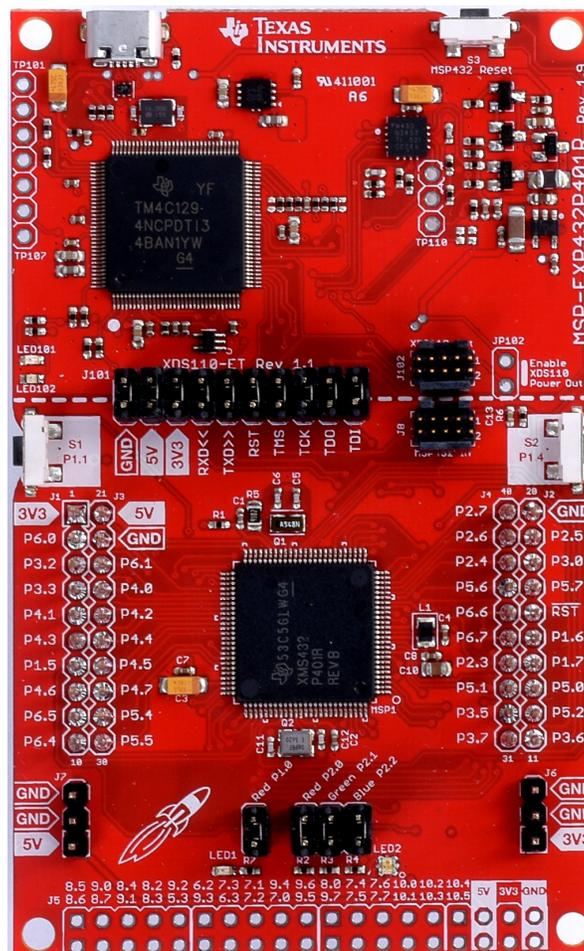

Figure 7. MSP432 LaunchPad Jumper Configuration
1. Verify jumper configuration on the MSP-EXP432P401R LaunchPad and the LM36011EVM as in Figure 7 and Figure 4, respectively.
Configuration of MSP432 LaunchPad jumpers is as shown in Figure 7.